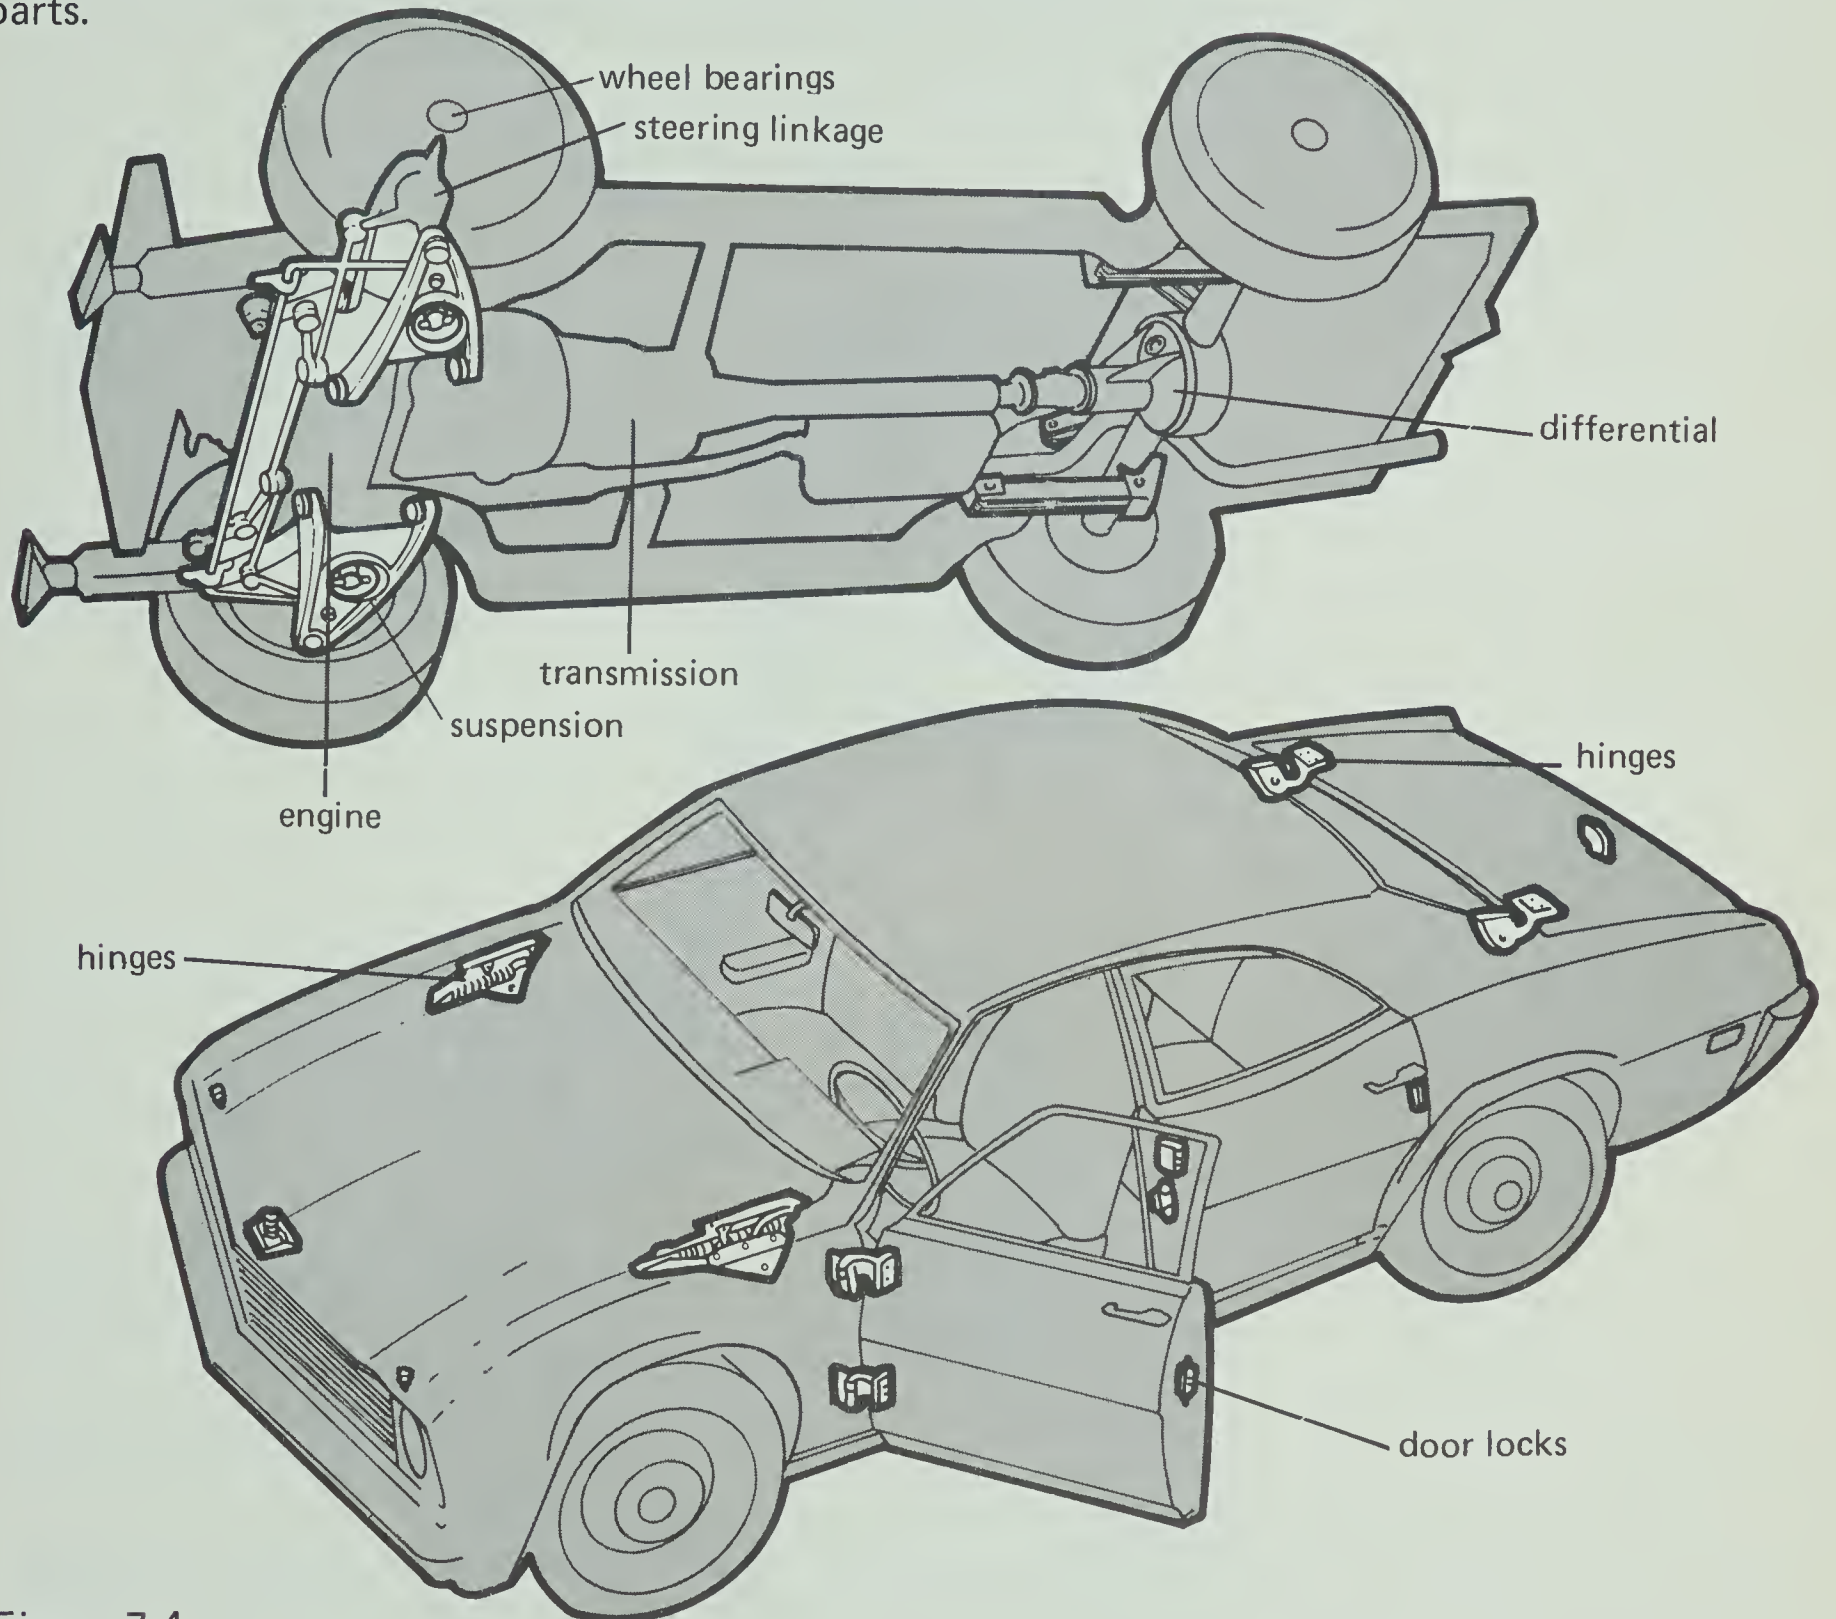

Figure 7-4
The engine isn't the only part of a car that needs lubrication. Some lubricant is called for wherever two moving surfaces are in contact. That includes transmission, differential, joints in the steering linkage and suspension, and even door locks and hinges. The entire car should be lubricated regularly. Look at Figure 7-4 below. Several different kinds of lubrication are needed for these parts.
- 7-7. How many different places (labeled or shown heavy) call for lubrication in Figure 7-4 above?